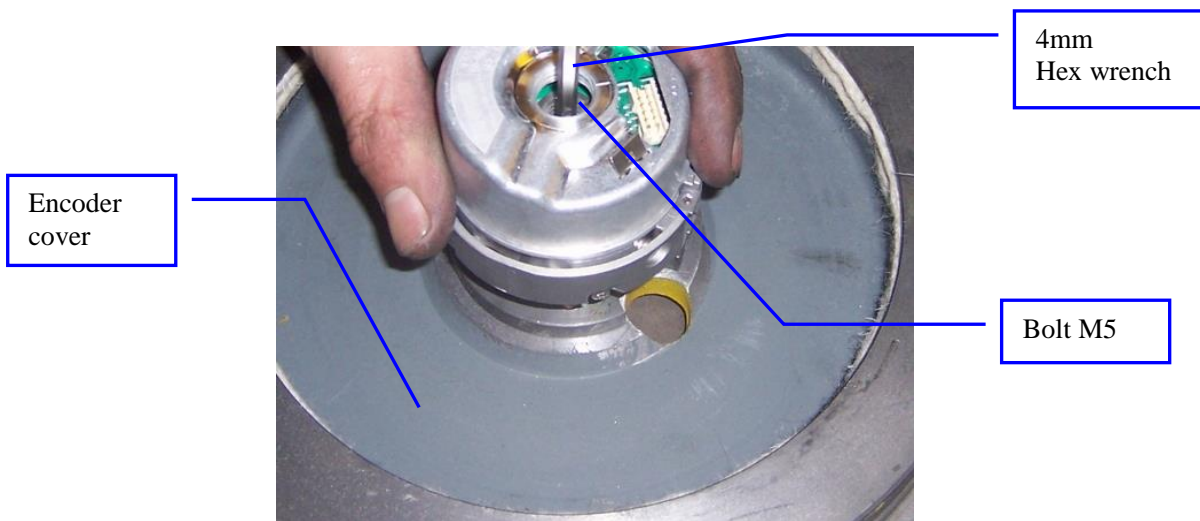

Figure 18: Install encoder on encoder cover
3. Install the encoder to the encoder cover. Use the bolt M5 to secure the encoder to the encoder cover by hex wrench (4mm). Use 4mm socket Allen and torque wrench to tighten the bolt to 44 in-lb. See Figure 18.